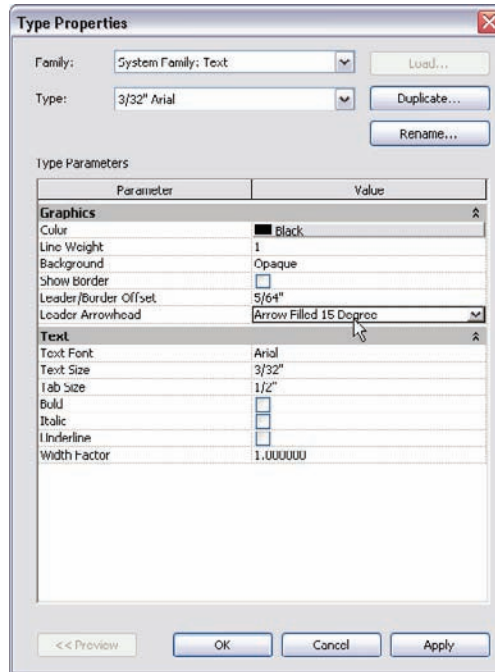

FIGURE 5.53 Changing that ugly arrow
2. Change the Leader Arrowhead parameter to Arrow Filled 15 Degree, as shown in Figure 5.53.